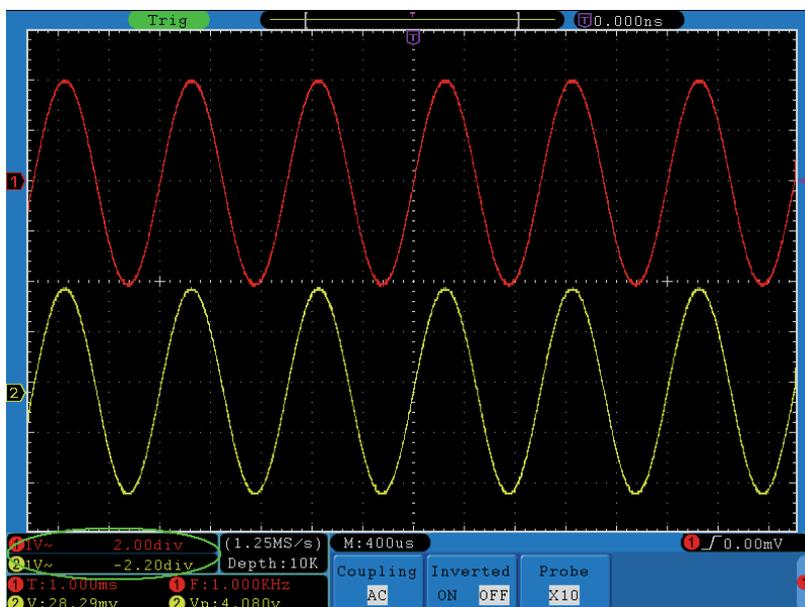

Figure 25. Information about Vertical Position.
- 3 When the vertical position of the channel waveform is adjusted, the changed value is displayed at the left bottom corner of the screen (see Figure 25).